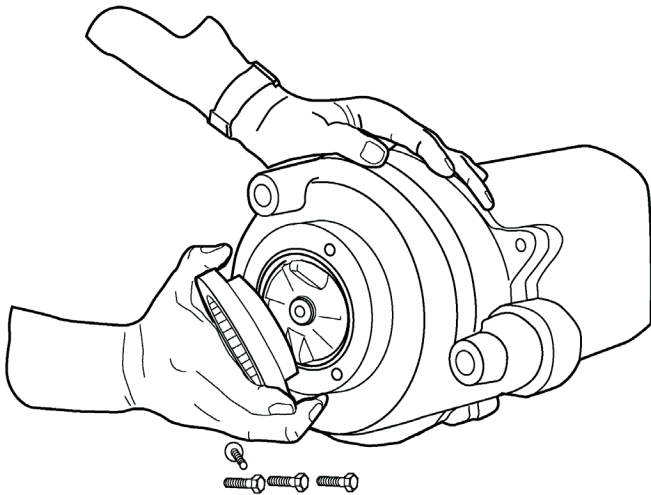

Fig. 5
7. After case is removed wrap emery paper around shaft and hold with vise grip pliers. Use cloth on impeller and screw up against shoulder. Now pump can be reassembled. See Fig. 5